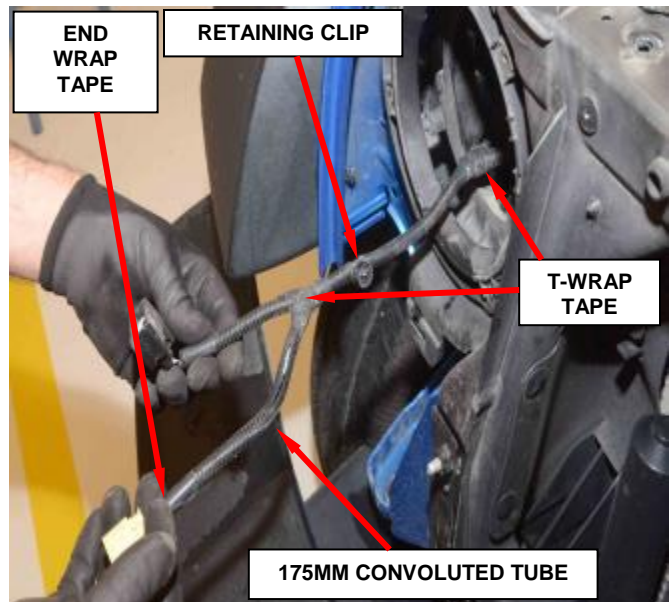

Figure 6 – Remove Tape
- Pull the pigtail through the headlamp opening for access then remove and **discard** the wire harness retaining clip (Figure 6).
15. Remove the end wrap at the right front impact sensor (Figure 6).
16. Remove the T-wrap tape at two locations from the wire harness (Figure 6).
17. Remove and save the 175mm (7in) convoluted tube from the right front impact sensor wiring pigtail (Figure 6).